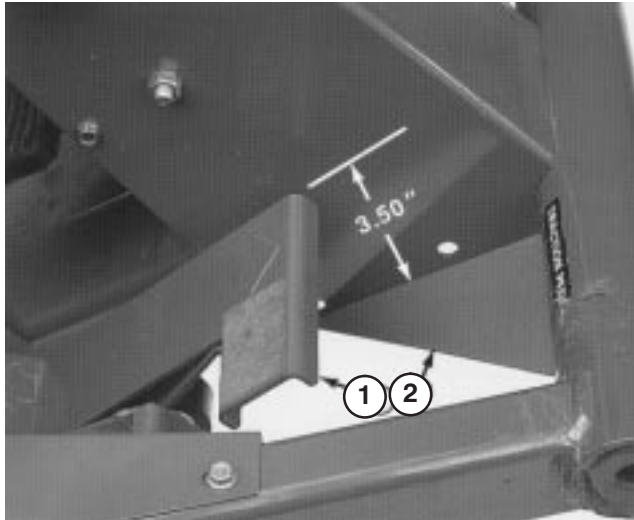
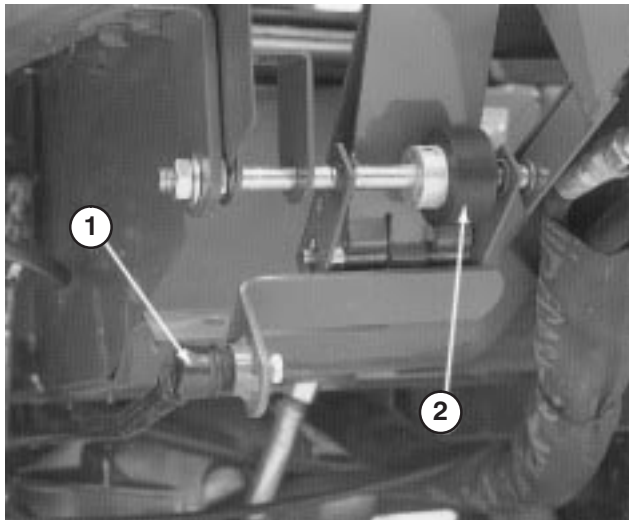

Figure 54
Figure 55
2. Press down on front of traction pedal and check travel. There should be approximately 3.50" clearance between end of pedal and floor plate when pedal is fully depressed (Fig. 54). Adjust pump control rod (Fig. 55) to attain dimension.
1. Loosen two nuts securing traction pedal shaft on right side of pedal (Fig. 55).